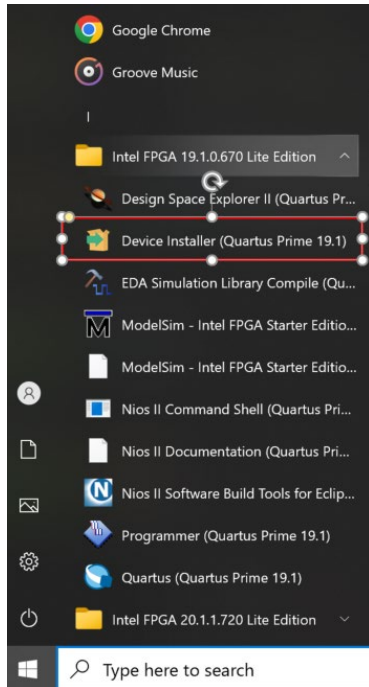

Figure 22: Finding the Quartus device installer in the Windows Start Menu.
- Select “Intel FPGA ...” and then “Device Installer (Quartus ...)” as shown in Figure 22.